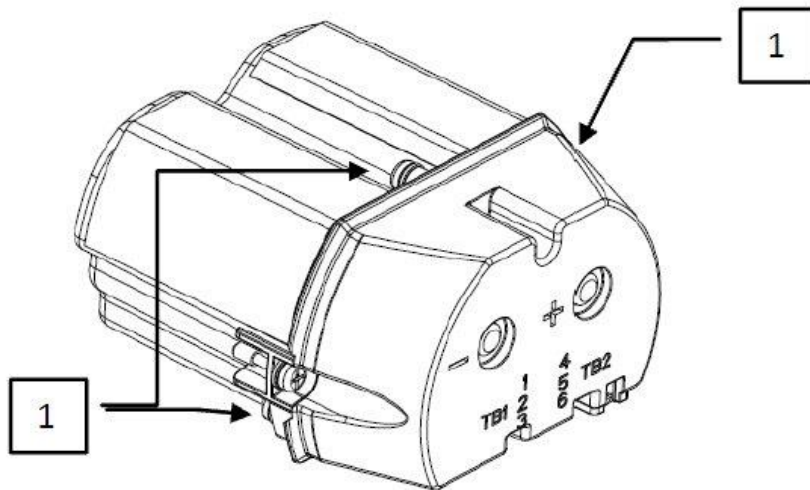

Figure 4-2: IS Battery Pack
5. Remove top of battery pack by using a #1 Philips or 1/8" slotted screwdriver for the screws identified as #1 in Figure 4-2